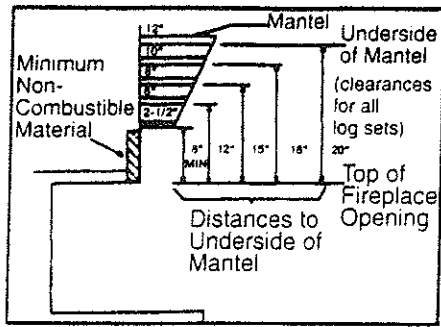

Figure 3. Mantel Clearances without Mantel Guard Canopy.
4. Mantel Clearances: If a combustible mantel is installed, it must meet the clearance requirements detailed in Figure 3 & 4.